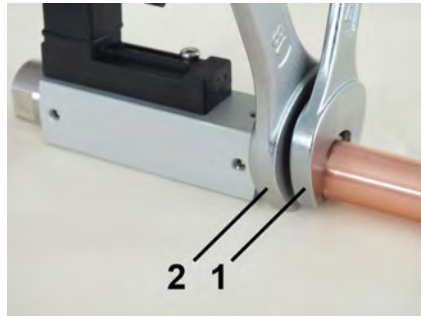

Fig. 11: Screw in the device
3. ➔ Keep turning in the adapter union (Fig. 11/1) while holding the process connection of the device locked (Fig. 11/2) until the connection is tight